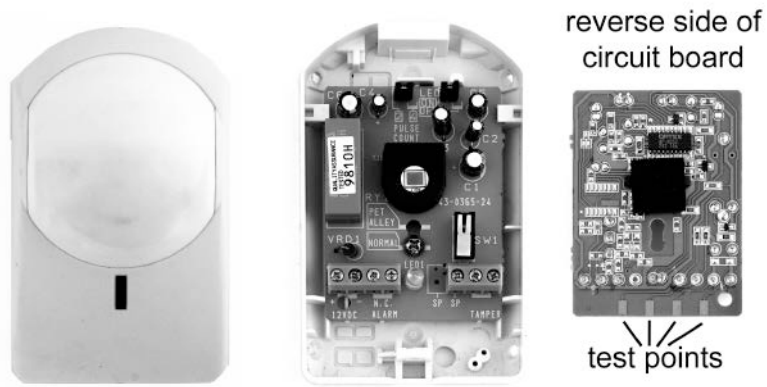

Fig. 11
- (b) Fig. 11 shows a PIR sensor from an alarm system. The reverse side of the circuit board has four built-in test points.
- (ii) The circuit board in Fig. 11 uses surface mount components. State **two** benefits of surface mount components for commercial manufacture.